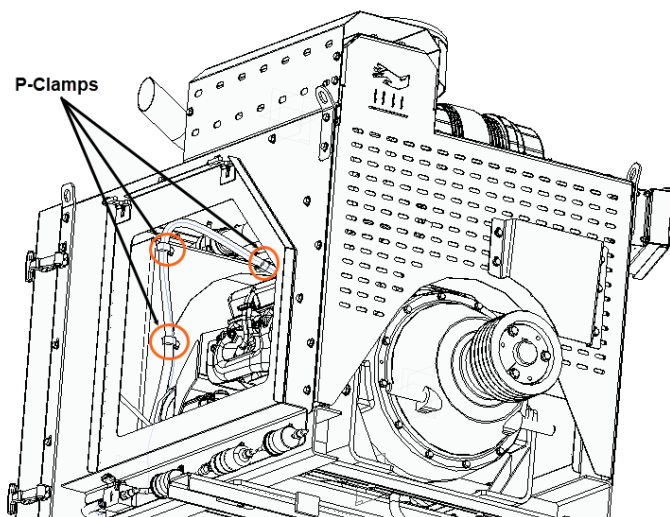

Figure 2
- 3) Loosen and remove the three (3) P-clamps from the insulated (orange) tube between the block manifold and the engine. See Figure 2